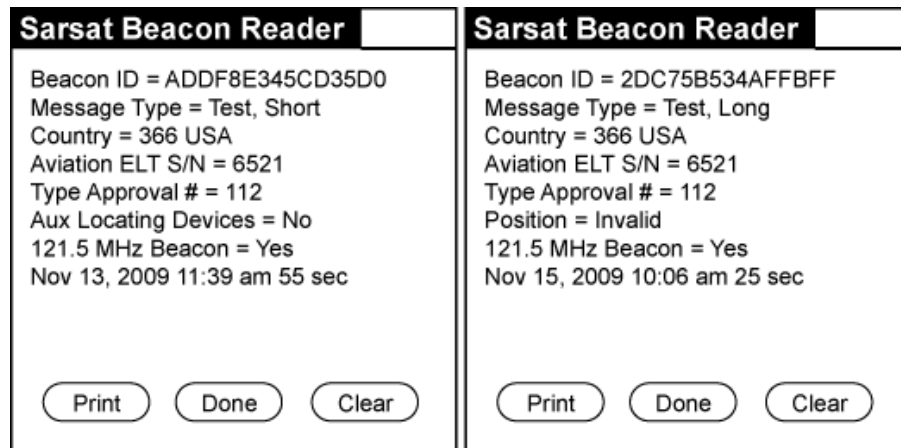

Figure 11 Short and Long 406 MHz Message Examples
- 4) Deactivate the ELT and read the test message broadcast at "turn-off". Message examples are shown in Figure 11.
- b) The left hand example in Figure 11 is an ELT programmed for "User Protocol ELT with Serial Number", with a test Hex ID. The right hand example is an ELT programmed for "Standard Location Protocol ELT with Serial Number".
- d) If the ELT is programmed with a location (long message) protocol and disconnected from the ELT/NAV Interface, the message will indicate "Position Invalid" in lieu of position data, as shown in the right hand example in Figure 11.